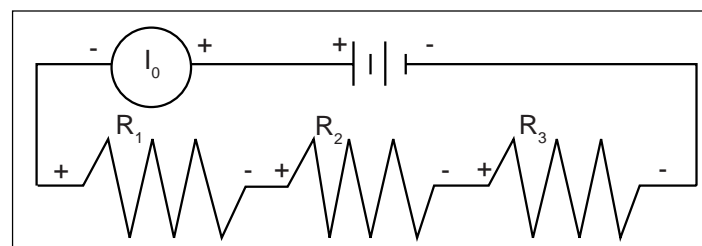

Figure 6.2
- ② Now change the leads in your DMM so that they can be used to measure current. You should be using the scale which goes to a maximum of 200 mA. Be careful to observe the polarity of the leads (red is +, black is -). In order to measure current, the circuit must be interrupted, and the current allowed to flow through the meter. Disconnect the lead wire from the positive terminal of the battery and connect it to the red (+) lead of the meter. Connect the black (-) lead to  $R_1$ , where the wire originally was connected. Record your reading in the table as  $I_0$ . See Figure 6.2.